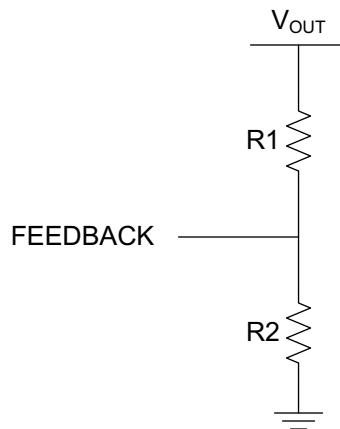

Figure 7-2. Adjusting the Feedback on the LP2951-Q1
- $V_{REF} = 1.235$ V applied across R2 (see Figure 7-2)